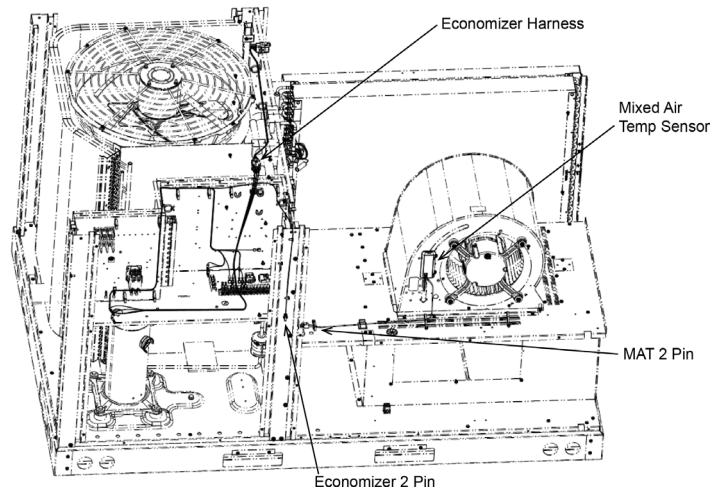

**FIGURE 11 - REMOVE ECONOMIZER JUMPER PLUG**
1. Remove the jumper plug from the factory installed economizer wire harness. The jumper plug is located on the partition panel in the return air compartment (see Figure 11).